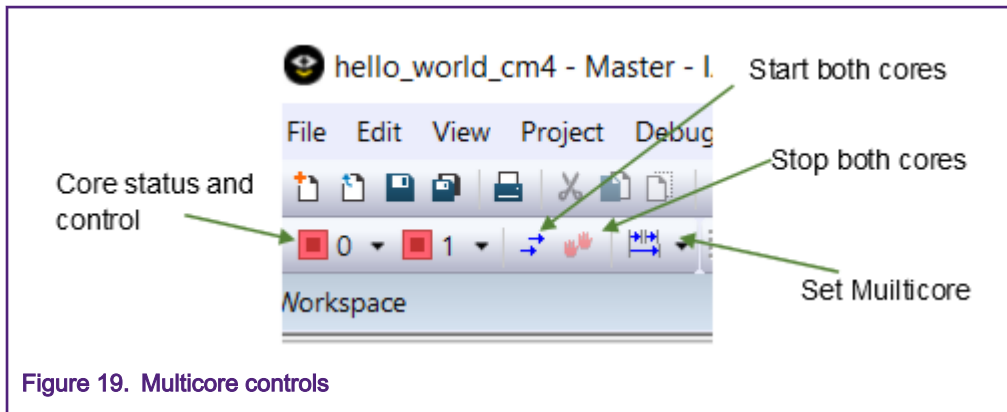

Figure 19. Multicore controls
- There are new controls to control the cores independently or simultaneously. There are controls start both cores, pause execution of both cores, or get the status of both cores. Figure 19 displays and explains the multicore controls in IAR.